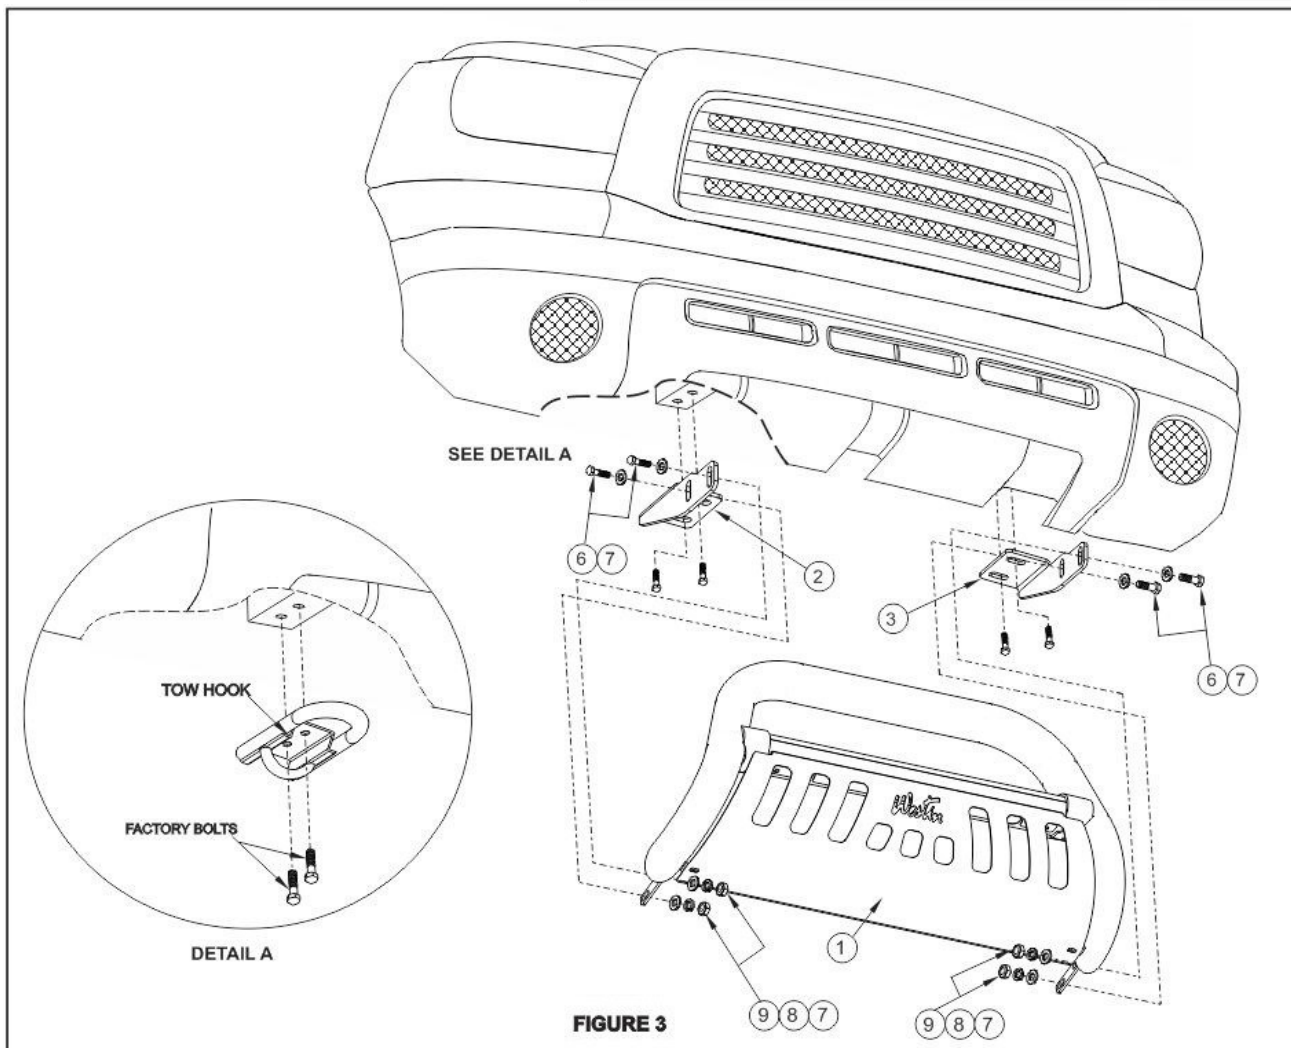

FIGURE 3
4. Attach Bull Bar to mount brackets using 1/2" stainless steel fasteners. See **Figure 3**. Level and adjust Bull Bar as desired and tighten all fasteners. Recommended torque values are 79 ft-lbs for M12 bolts and 37 ft-lbs for 1/2" stainless steel fasteners.